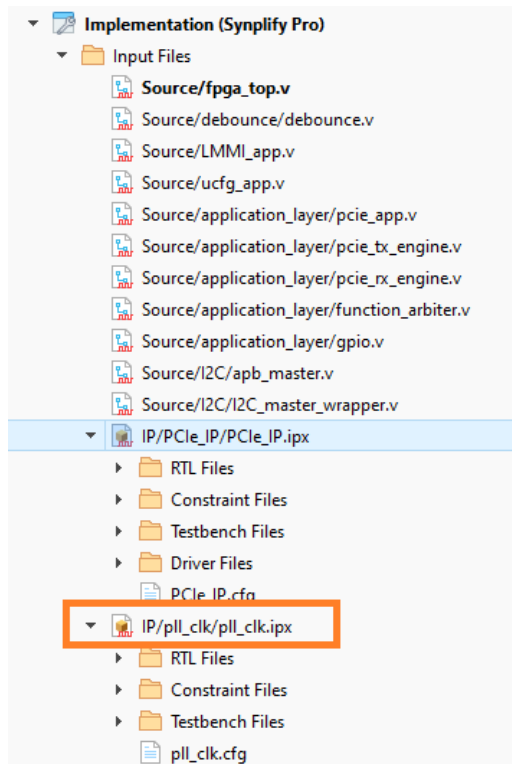

Figure 7.9. Open PLL IP
- Click **Open** the PLL IP instance as shown in Figure 7.9.